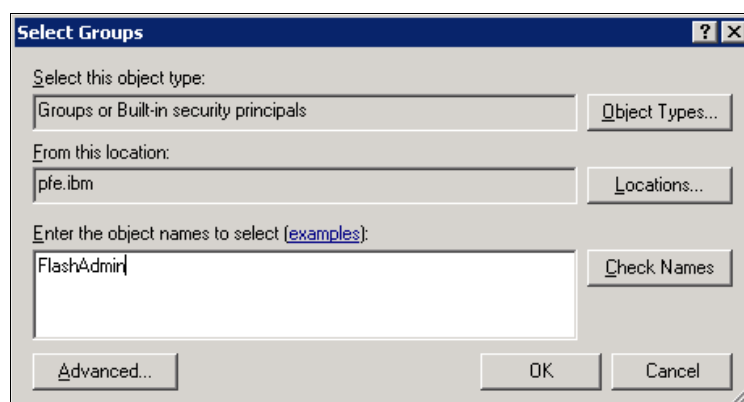

Figure 7-18 Active Directory Select Groups window to add users to the FlashAdmin group
4. In the Select Groups window, enter FlashAdmin and click **Check Names** (see Figure 7-18).